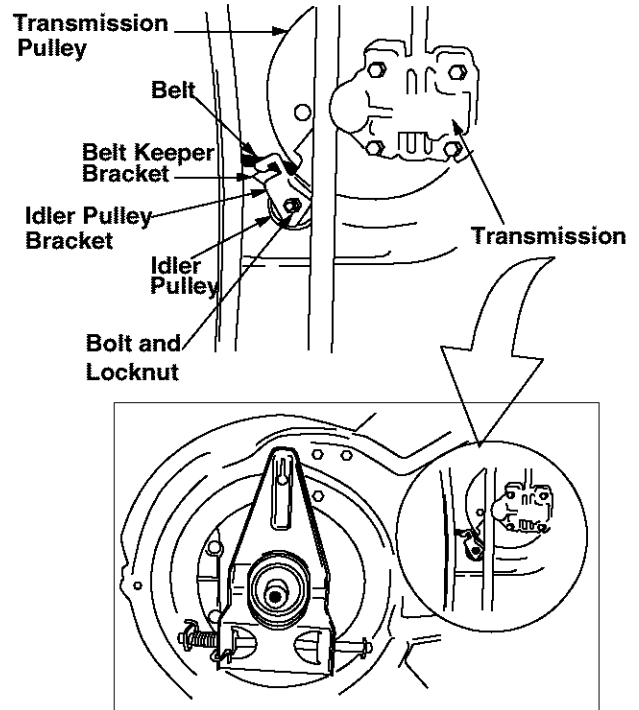

Figure 23
- Tilt the transmission forward and loosen the idler pulley bolt and lock nut half a turn. See Figure 23.
- Slide the belt out from between the belt keeper bracket and the idler pulley. See Figure 23.